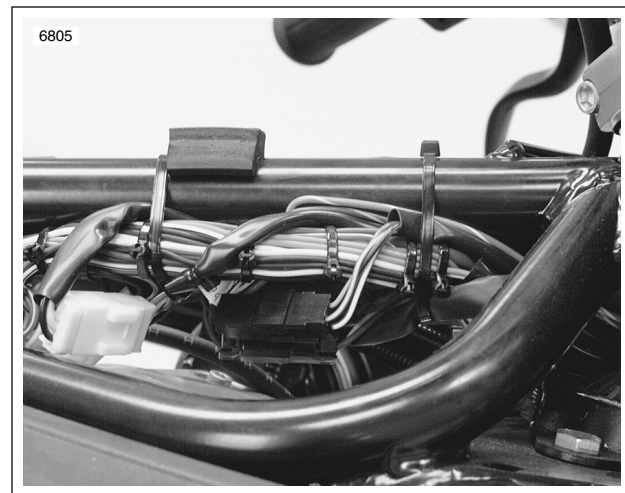

Figure 7-93. Tachometer Wiring Connector Locations (Approximate)
- b. Cut cable straps on wiring harness. See Figure 7-93. Detach wires at plug connector.
- a. See Figure 7-93. Attach wires at plug connector.